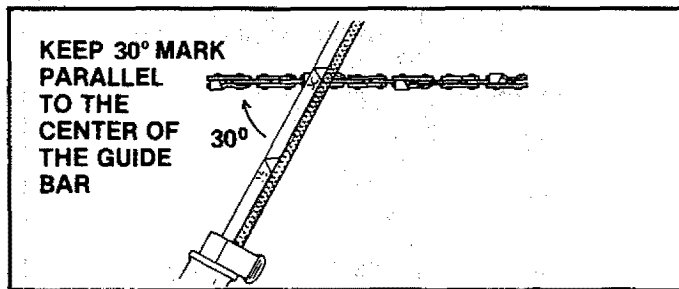

Figure 39
- Hold the file holder level with the 30° guide mark parallel to the center line of the bar. Figure 39.